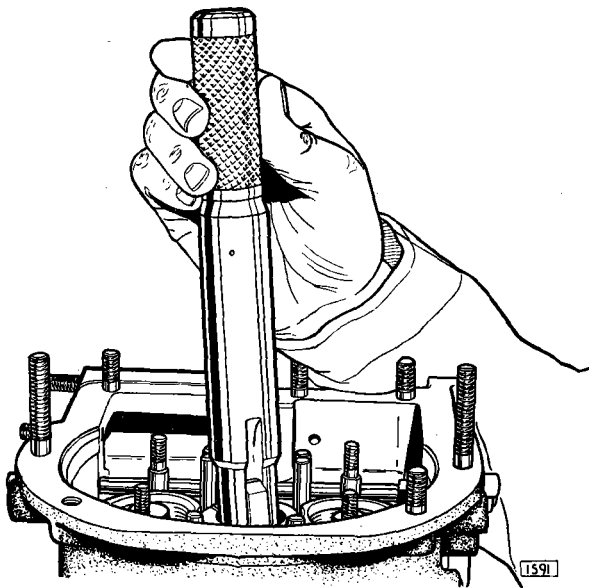

Fig. 29. Aligning the splines (Tool No. L.185A).
3. Ensure that the splines in the uni-directional clutch and planet carrier are in alignment. These splines are visible at the bottom of the bore in the overdrive unit. If alignment is necessary, use the dummy mainshaft as shown in Fig. 29.